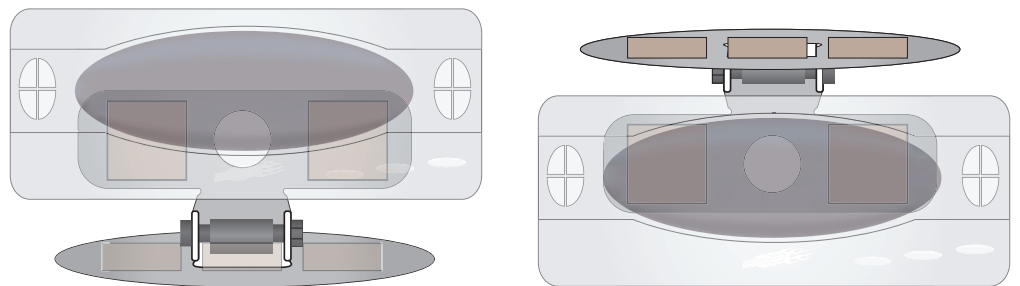

fig. 17
2. Cut the velcro into 1" squares and attach two "hook" pieces of the velcro to the mounting bracket and attach the two corresponding "loop" pieces of the velcro to the back of the display panel (Fig. 17).
4. Attach the mounting bracket to its mounting location in the same manner. Place three "hook" pieces of the velcro onto the bracket and place three "loop" pieces of the velcro onto the chosen mounting location (Fig. 17).